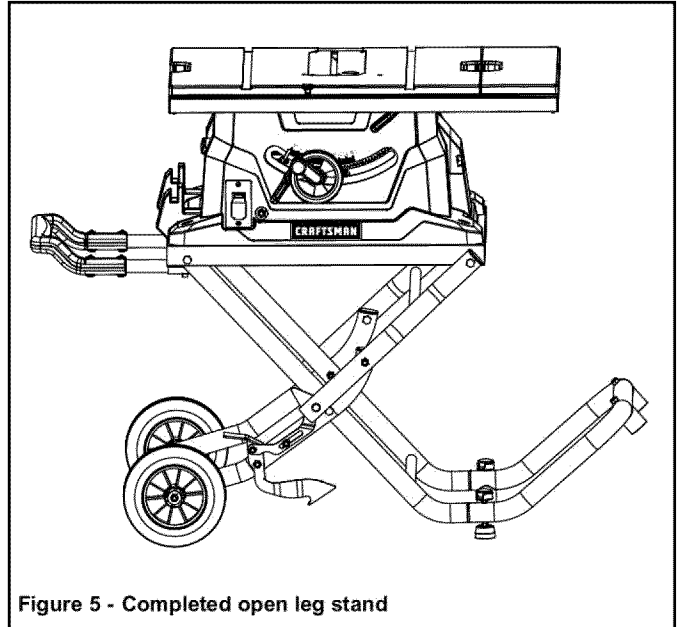

Figure 5 - Completed open leg stand
- Figure 5 is complete open leg stand assembly.